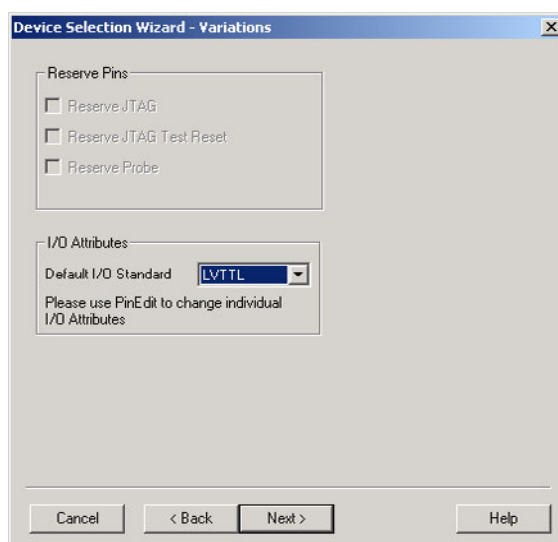

Figure 1 • Default I/O Standard Selection in Designer
1. Select the **Default I/O Standard** in Actel's Designer software Device Selection Wizard (Figure 1).